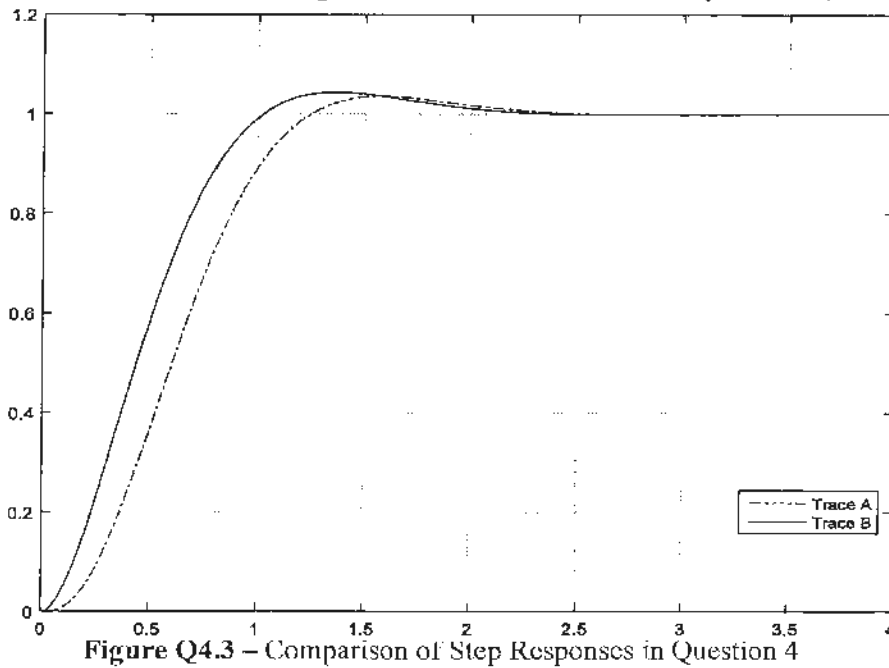

Figure Q4.3 – Comparison of Step Responses in Question 4
- 4) **(3 marks)** Finally, consider the two step responses shown in Figure Q4.3. One corresponds to the actual system response at the Proportional Gain value found in item 3) above, the other corresponds to the second order (“dominant poles”) model. Identify the traces (i.e. write A or B), and provide a very brief explanation to support your choices.